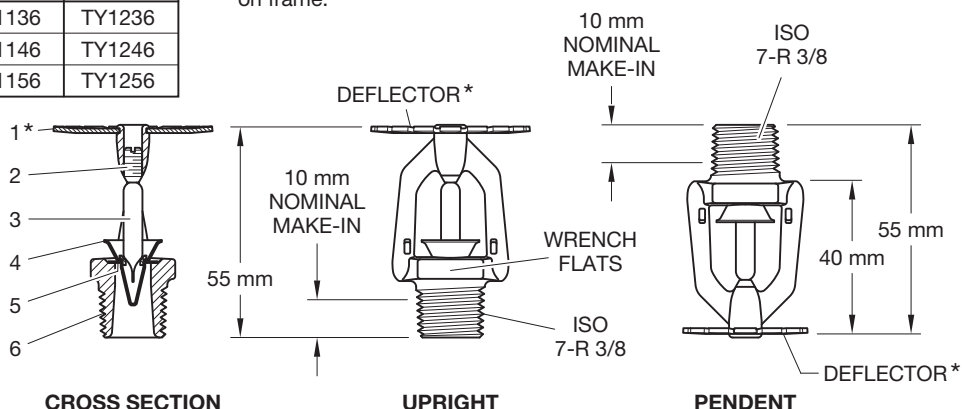

FIGURE 1
Step 2. Tighten the sprinkler into the sprinkler fitting using only the W-Type 6 Sprinkler Wrench (Ref. Figure 10). With reference to Figures 1, 2, and 3 the W-Type 6 Sprinkler Wrench is to be applied to the wrench flats.